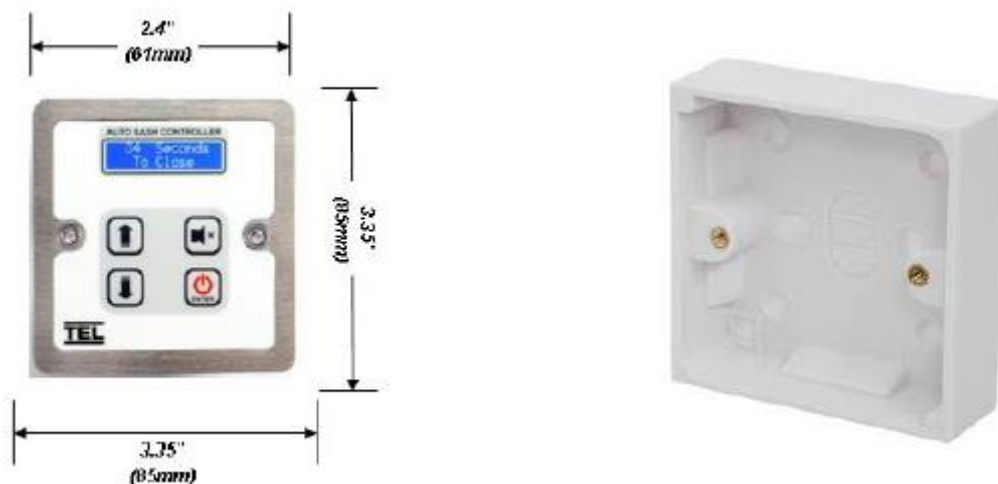
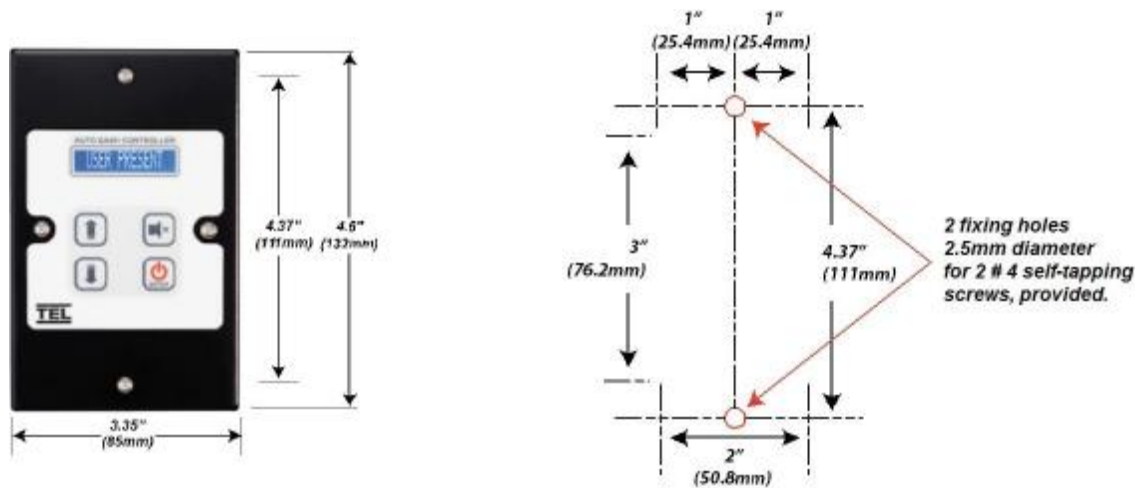

Figure 29: Version 1 - UK Single Gang Keypad Fits in Standard Single Gang Socket
Figure 30: Version 2 US Single Gang Keypad – (requires cut out in front panel)
1. Fit the Auto Sash Keypad to the fume hood using either a single gang socket for UK applications (Figure 29) or using a cut-out to the (Version 2) dimensions (Figure 30).